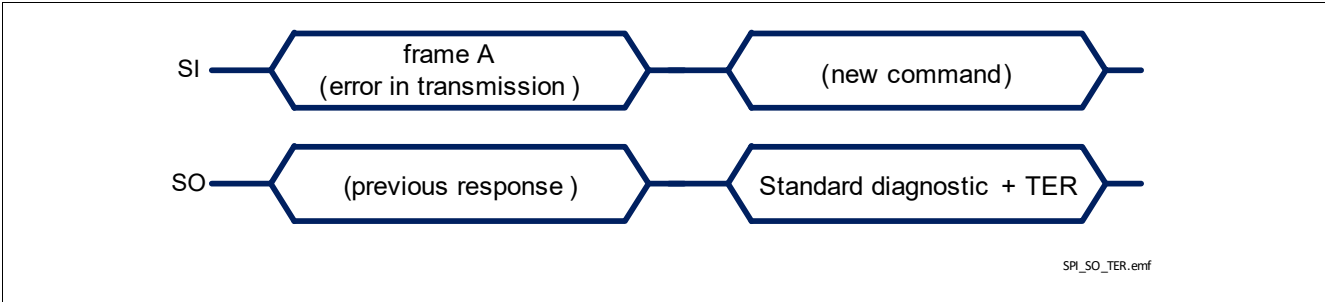

Figure 35 TLE75242-ESD response after a error in transmission
- in case an error in transmission happened during the previous frame (for instance, the clock pulses were not multiple of 8 with a minimum of 16 bits), shown in **Figure 35**